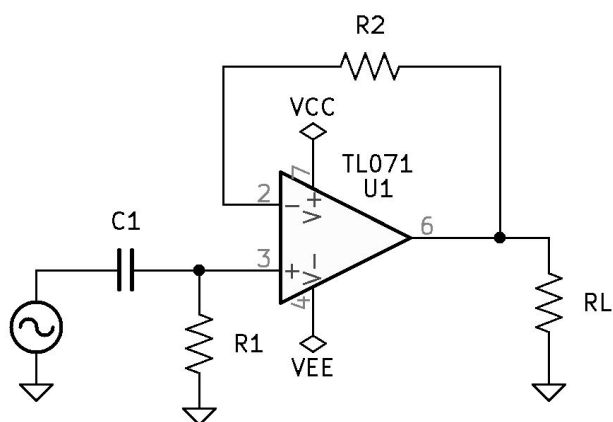

Figure 8.4: High-Pass First Order Active Filtering Circuit.
1. See Figure 8.4 *High-Pass First-Order Active Filtering Circuit* on page 81.